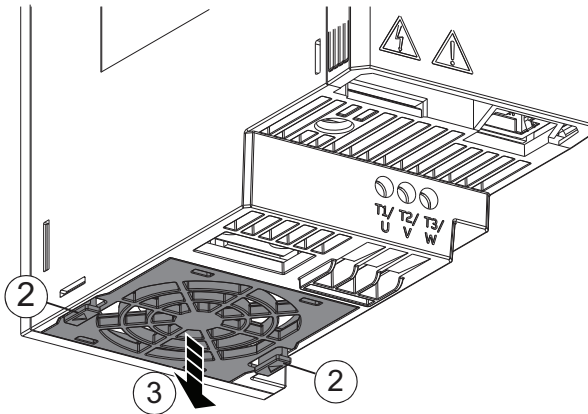

Fig. 68 — Lifting the Fan Cover out of Drive
3. Carefully lift the fan cover out of the drive. Note that the fan cover holds the cooling fan. See Fig. 68.